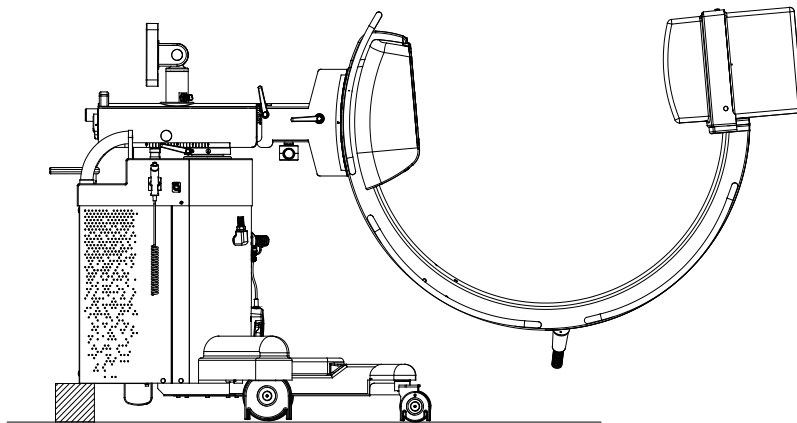

Fig. 4a
Attention: Before dismantling the X-ray monoblock, you must rotate the C-arm as shown in Fig.4a (with the FPD fully extended) and engage the brake (F) on the C-arm support, making sure that this stops the C-arm correctly. You also need to place a wooden block under the stand (see Fig.4a) to prevent the equipment from toppling over when the X-ray monoblock is removed.